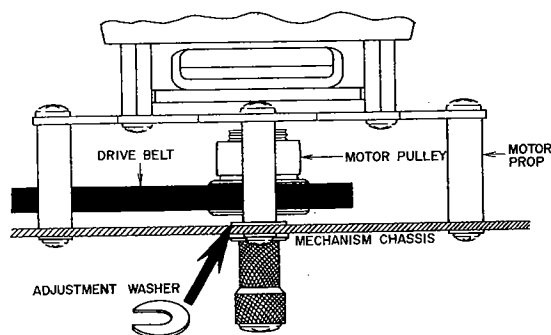

Fig. 7
3. DRIVE BELT POSITION ADJUSTMENT (Refer to Fig. 7)